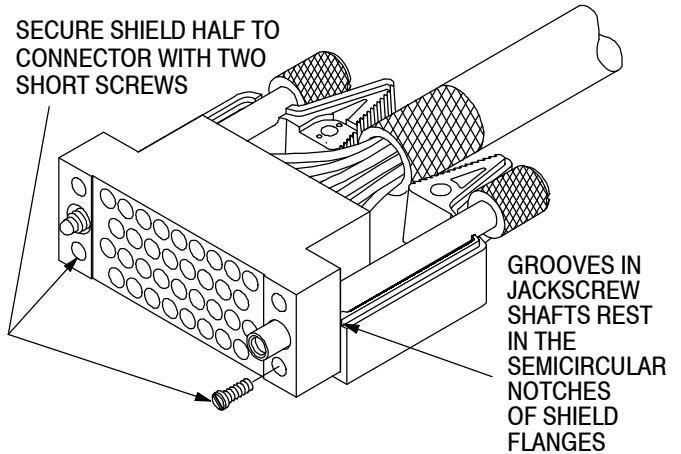

Figure 5
8. Place a shield half under the connector housing with the grooves in the jackscrew shafts resting in the semicircular notches on the shield flanges. Use two of the four short screws supplied with the kit to secure the shield half to the connector housing. See Figure 5.